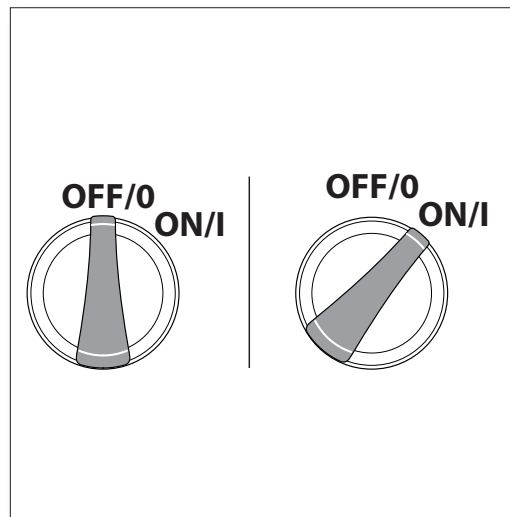

Fig. 20
- Make sure the “ON/OFF” switch is in the “OFF” position. The power switch has international symbols for ‘on’ and ‘off’: On (I) Off (O), (**Fig. 20**).